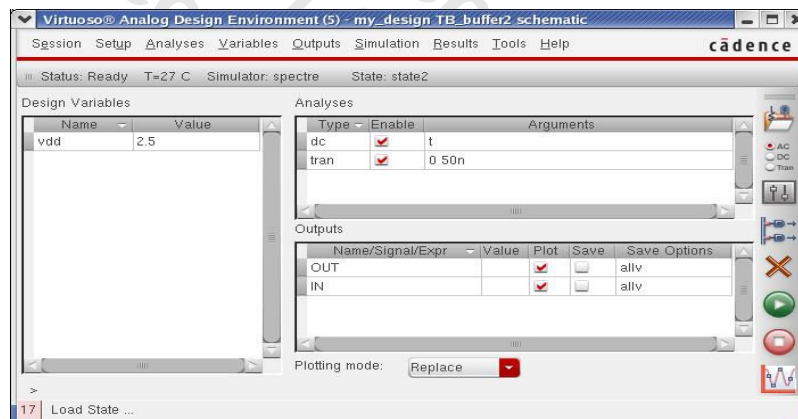

FIG. 42 Open Artist and use config view for post-sim
2. Open the Analog Artist environment L and use the config view of the test fixture for simulation (fig 42). You can also output the simulation netlist to make sure the 'av_extracted' view of our design in the configuration file is used for simulation rather than the 'schematic' view.